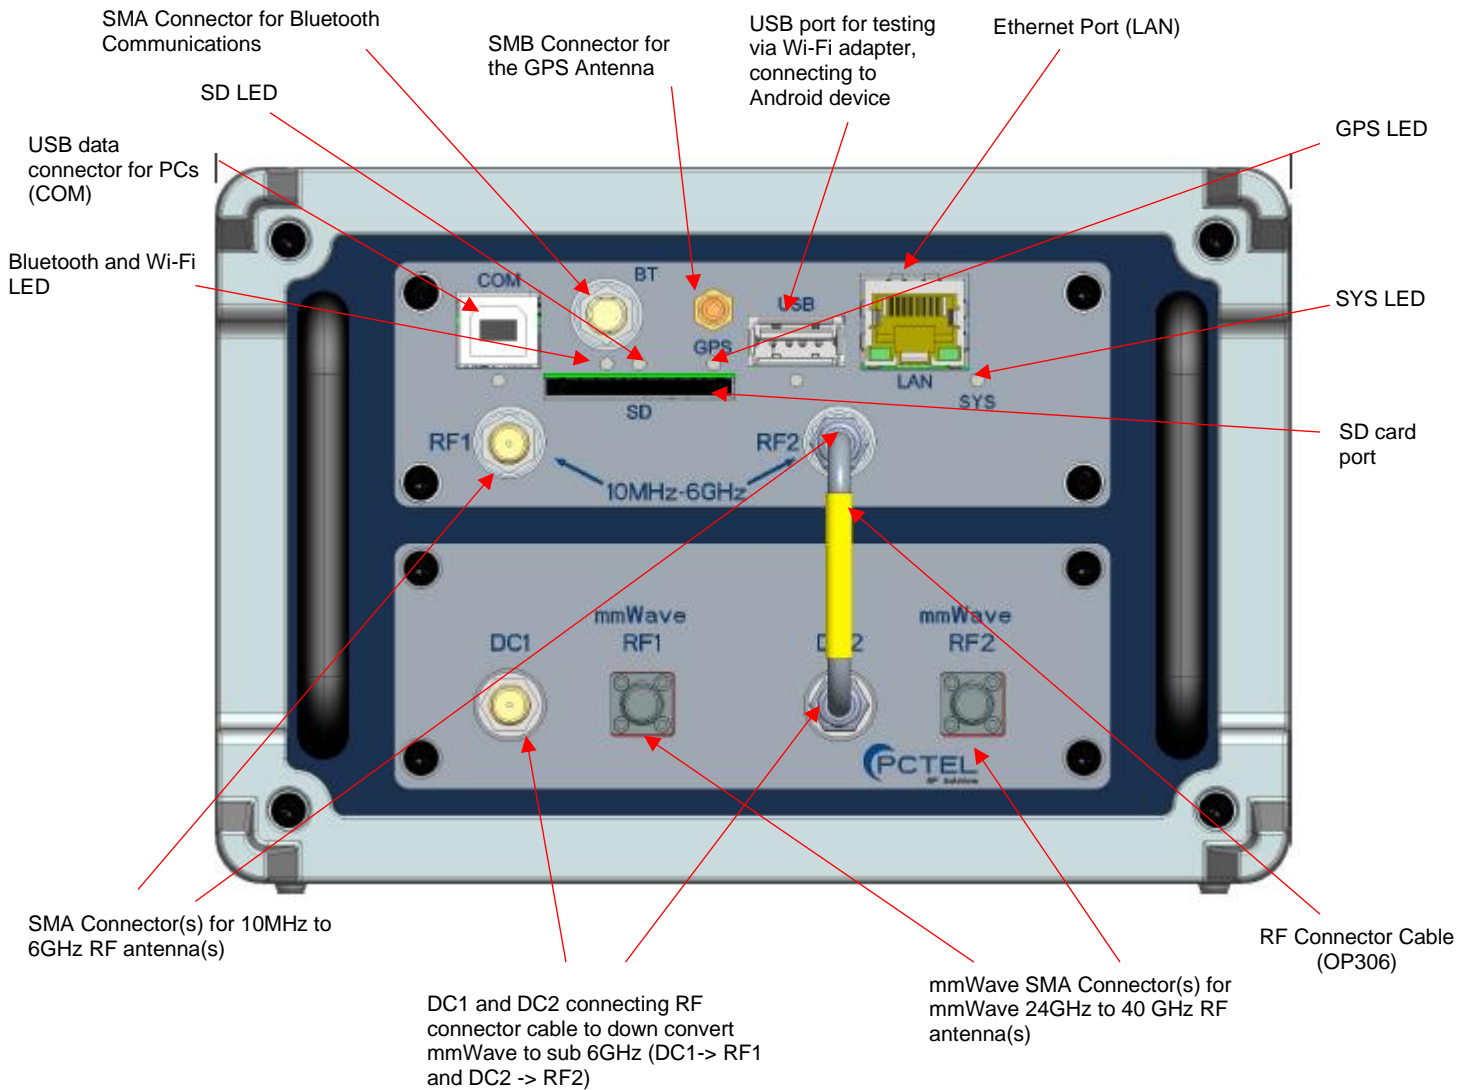
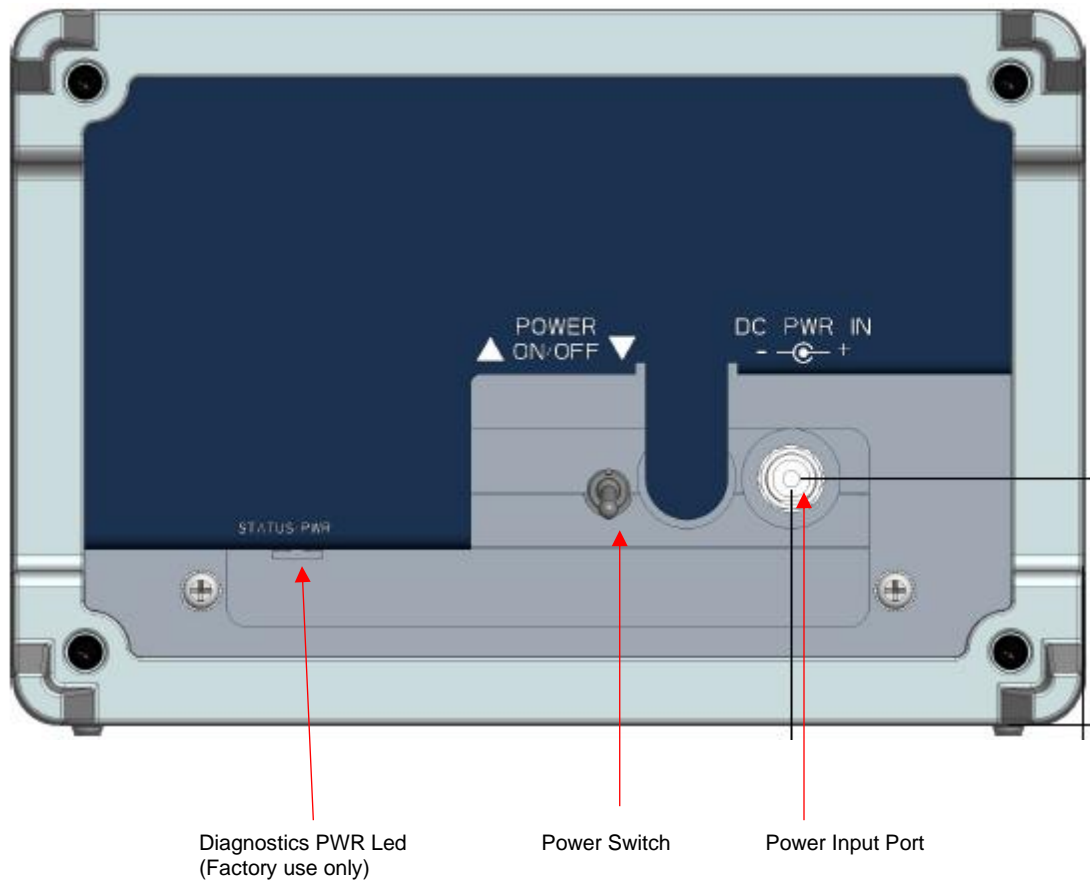

Figure 4 - SeeGull HBflex Scanning Receiver Front Display
Figure 5 - SeeGull HBflex Scanning Receiver Rear Display
- a. **10MHz-6GHz only:** If trying to carryout measurements between the frequency range of 10MHz to 6GHz then connect the antennas to the SMA connectors labeled RF1 and RF2 on the unit (*Figure 4*). Note that for 10MHz to 6GHz measurements RF2 is only used for these applications (otherwise, RF2 is inactive):
- b. **Both 10MHz-6GHz and 24-40GHz range:** For this case, connect the antenna for sub 6GHz measurements to appropriate RF1/RF2 port and then other mmWave antenna to other the appropriate mmWave RF1/RF2 antenna port. Ensure that the RF cable connector (OP306) from the mmWave DC1/DC2 is connected into the RF1/RF2 port which is being used for mmWave measurements and not sub 6GHz measurements. See Figure 4.
7. Connect the power cable to the SeeGull HBflex scanning receiver (*Figure 5*) and to the car Power Socket or to the battery pack for in-building testing. After the power switch at the back of the unit is turned on, the SYS LED on the receiver blinks orange. After a short delay, the light turns green (*Figure 4*). If the light turns dark red (either solid or blinking), the unit has failed the power-up test. Please contact Customer Support.